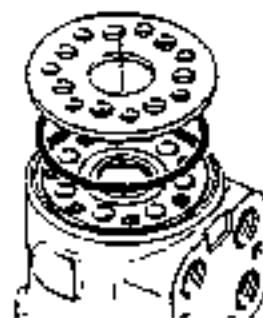

Figure 21
19. Install 3/8 diameter seal in housing, see Fig. 21.